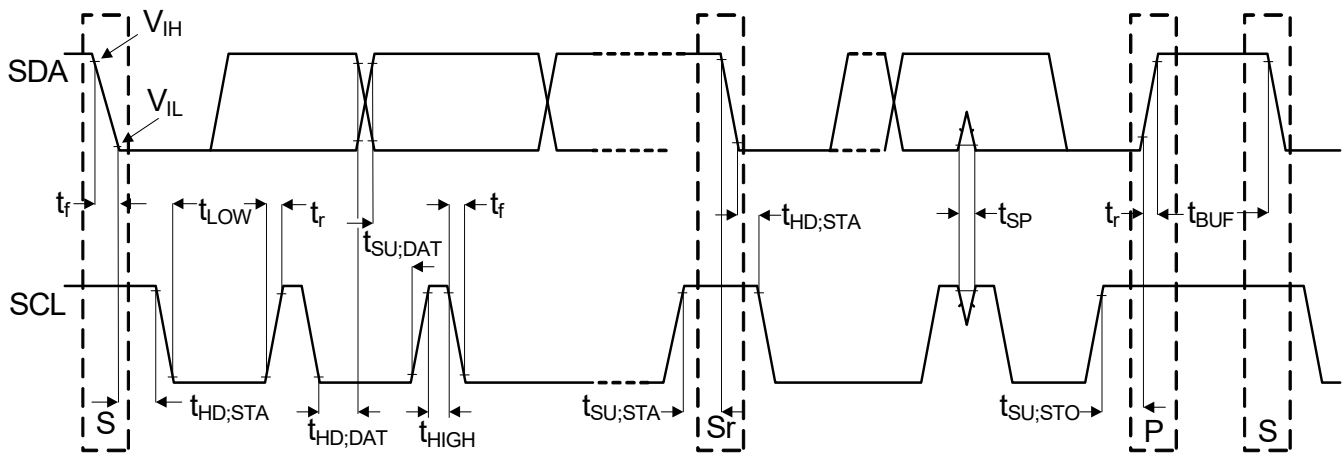

Figure 1. I²C Timing Definitions
- 4. Refer to Figure 1 for I²C timing definitions.